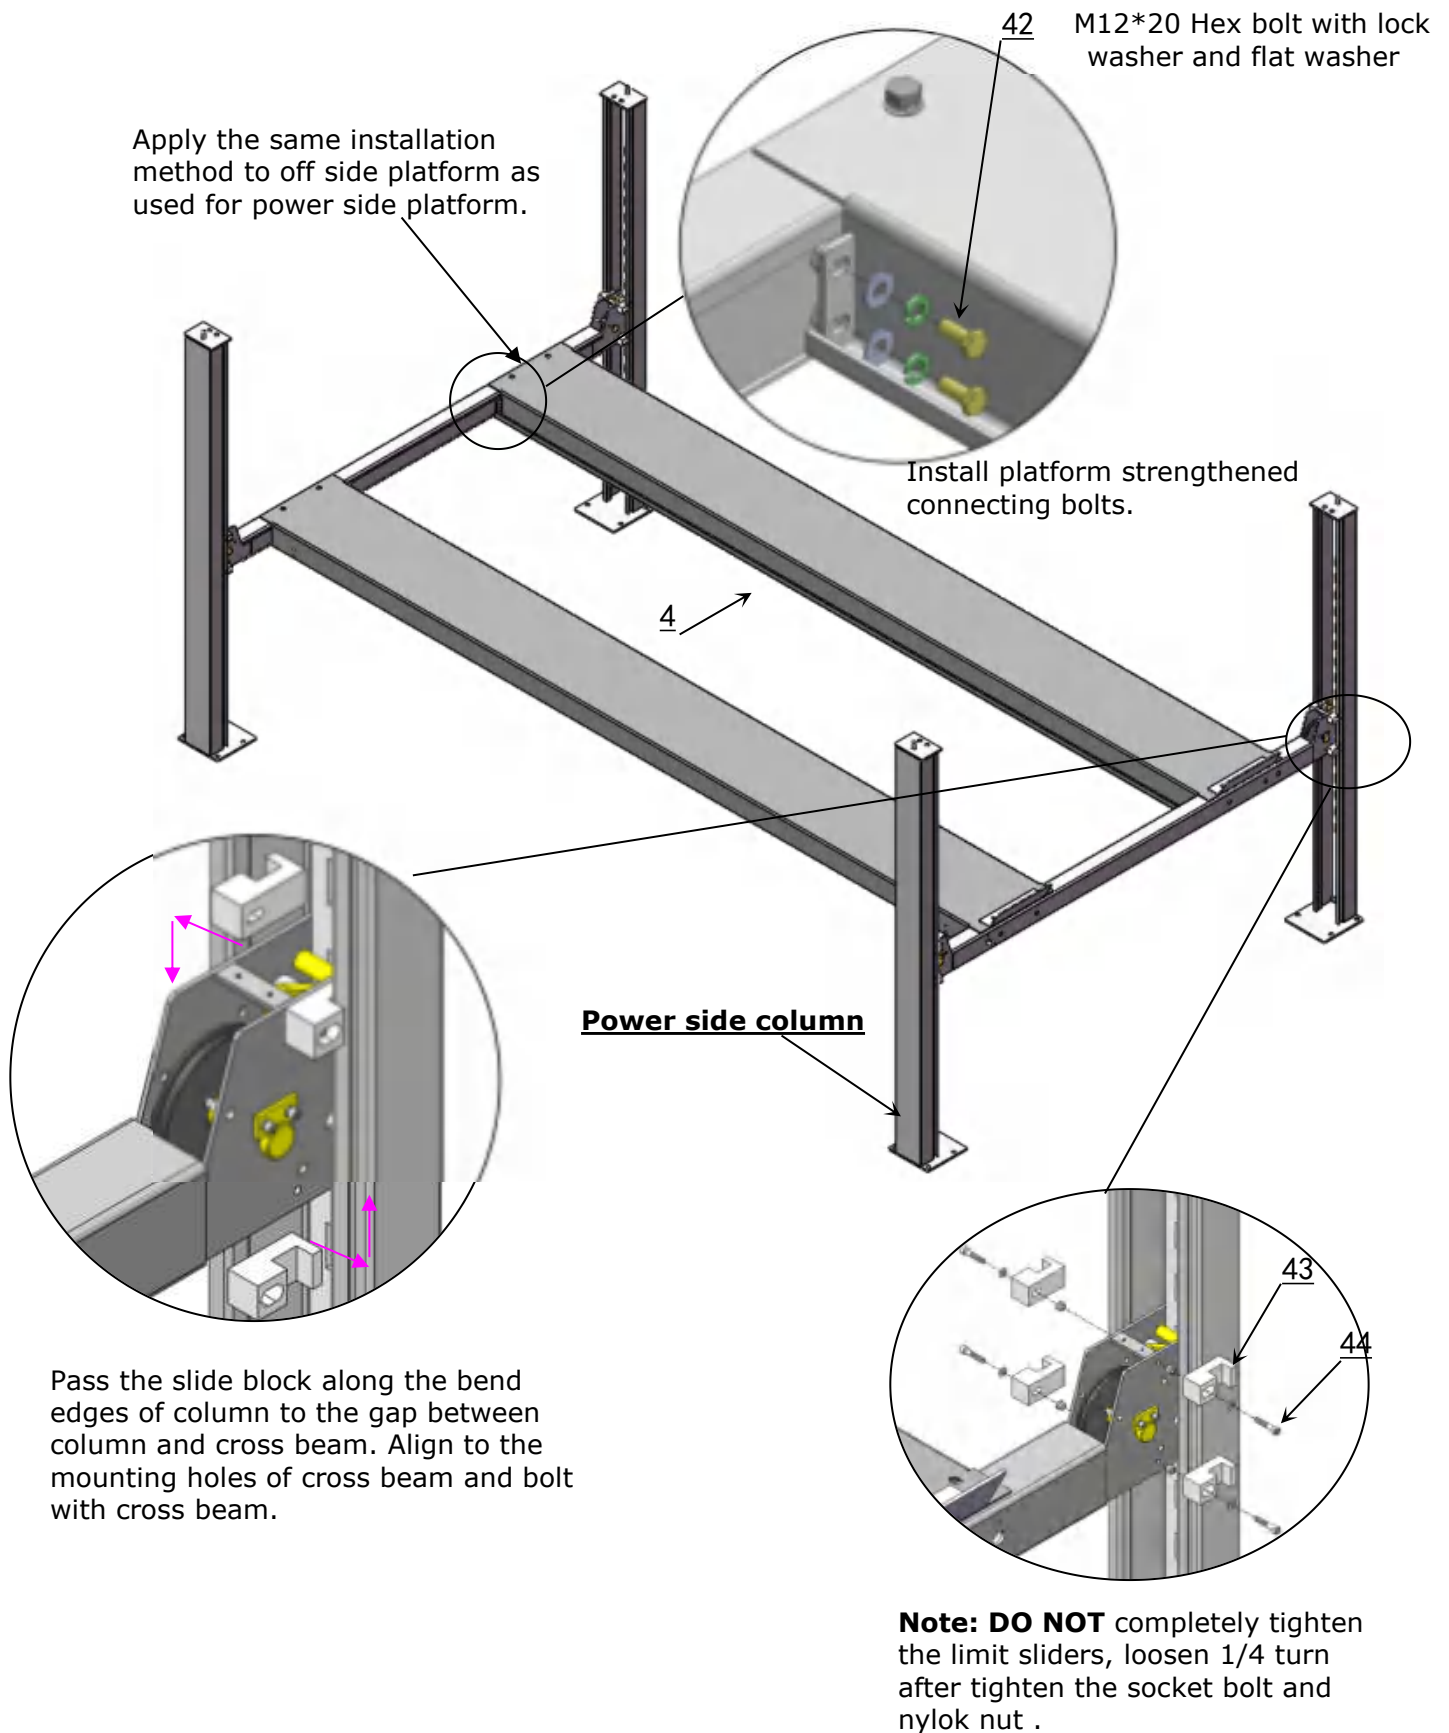

Fig. 22
H. Install offside platform and limit slider (See Fig. 22).